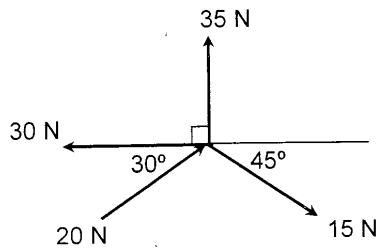

FIGURE 2
- 3.2 FIGURE 2 represents four forces acting on a point. Use FIGURE 2 to answer the questions that follow.